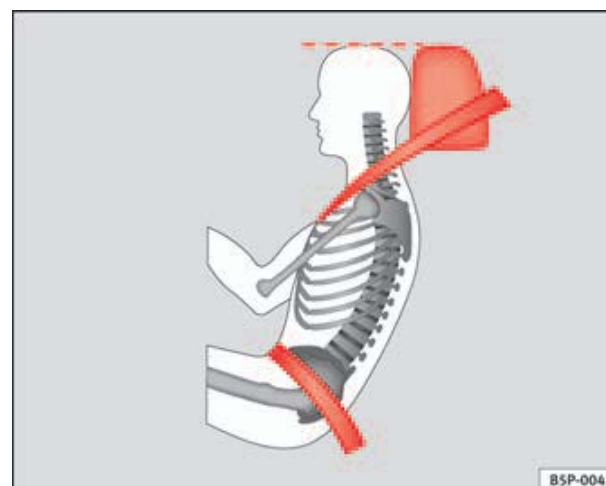

Fig. 13 Correct belt web and head restraint positions, viewed from side
- The lap part of the seat belt must lie across the pelvis, never across the stomach. The seat belt must lie flat and snugly on the pelvis ⇒ page 25, fig. 13. Pull the belt tight, if necessary to take up any slack.